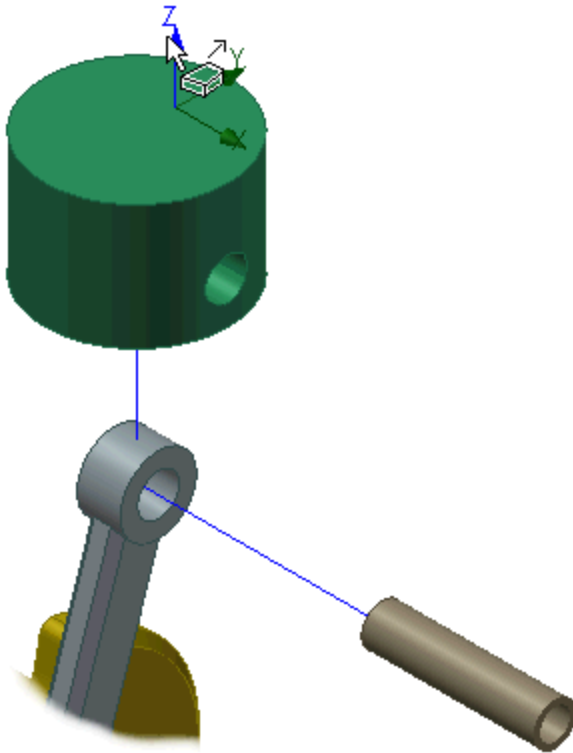

Figure 6: Piston tweak along Z-axis.
2. Click and drag the Z-axis arrow to move the piston away from the connecting rod (see Figure 6).